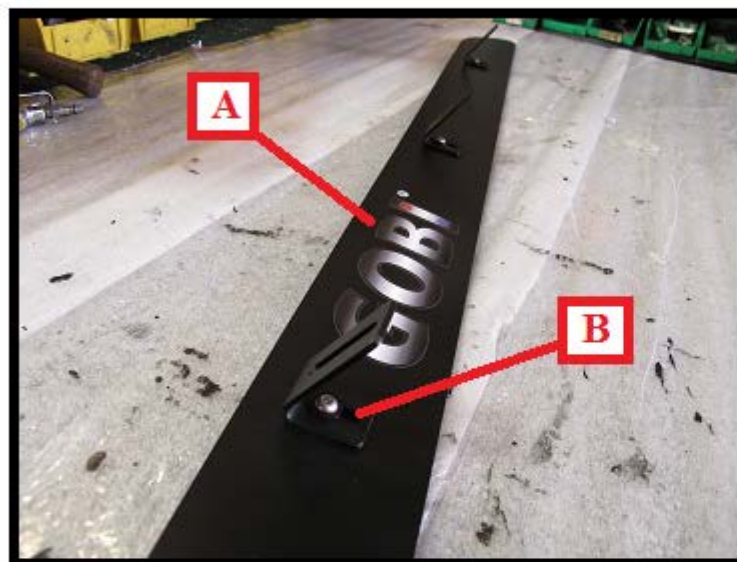

Fig. 1
After removing the Gobi Stealth wind deflector (A) strapped onto your roof rack. Face the Gobi logo upwards onto a table as shown in Fig. 1. Remove from hardware Bag #1 also tied to the wind deflector 3 black "L" brackets (B) and place the short end of the "L" bracket to contact the wind deflector as shown in Fig. 1 and Fig. 2.